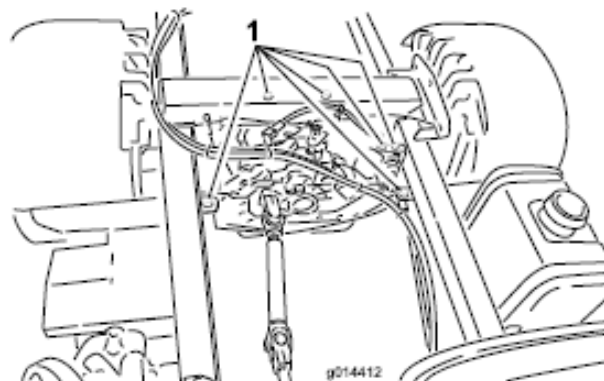

Figure 1
3. Remove the rear axle assembly by removing the securing bolts (Figure 1).